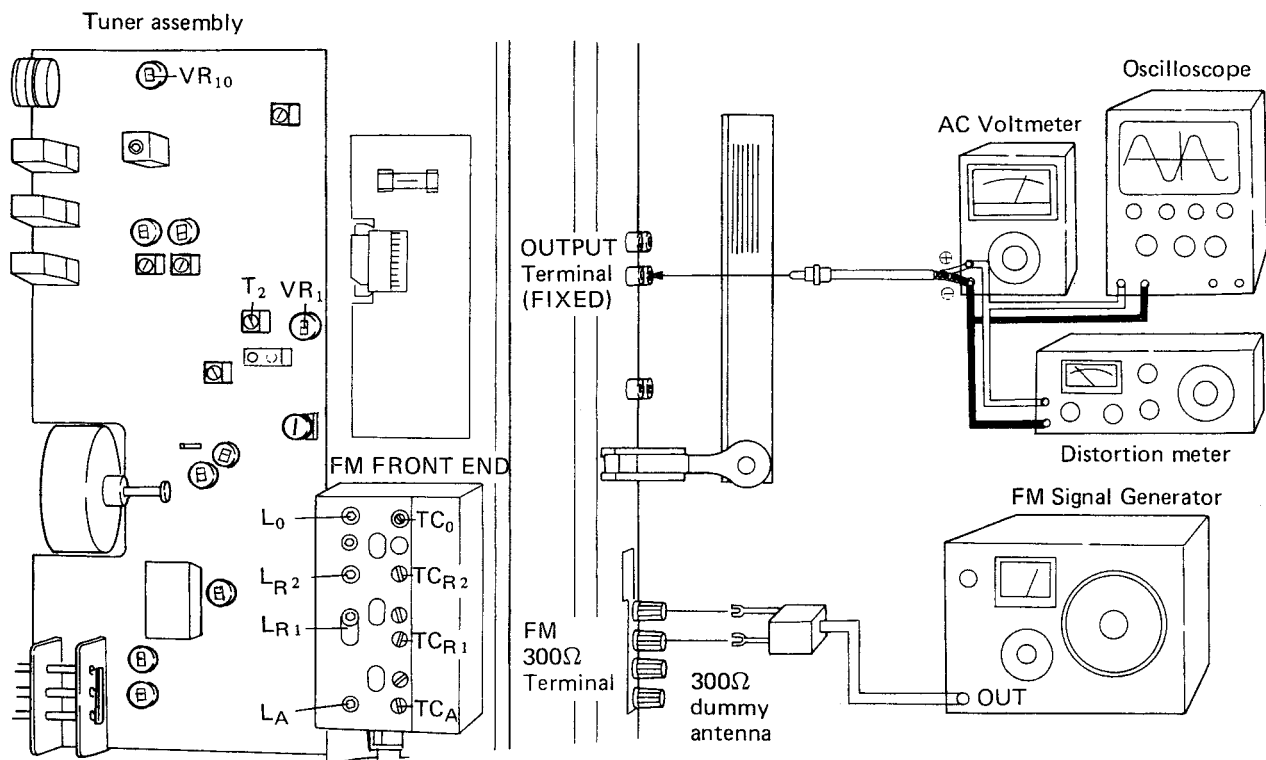

Fig. 11
2. Connect up the test instruments as shown in Fig. 11, and adjust FM Signal Generator (FM SG) to 90MHz, modulation frequency of 400Hz, 100% modulation, and output of 10dB.